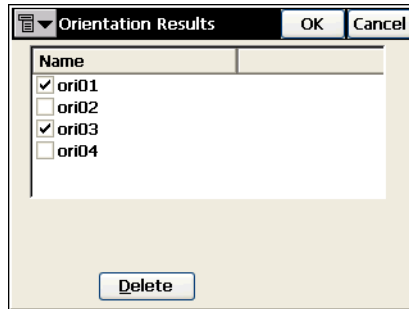

Figure 6-46. Delete Orientation Points
-  : opens the **Orientation Results** screen to delete the selected orientation points (Figure 6-46).